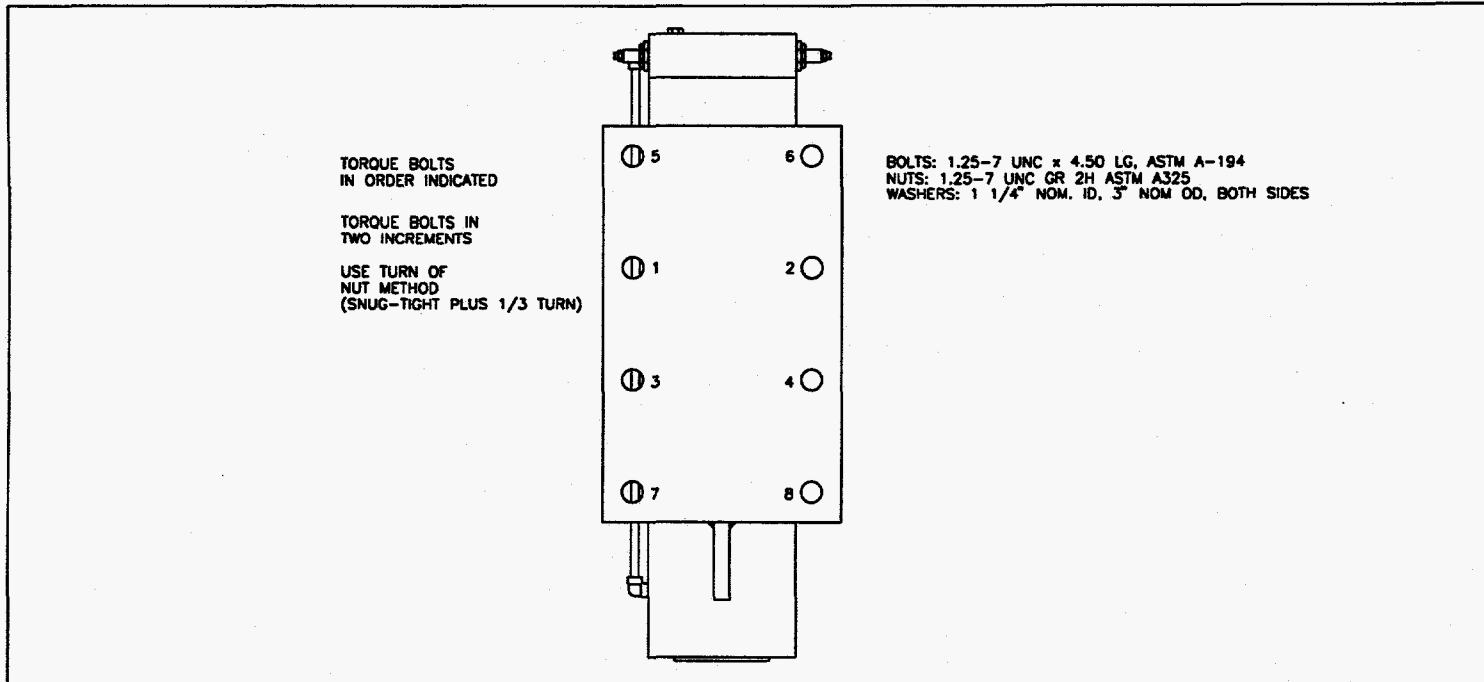

FIGURE 12, TORQUING SEQUENCE
- 3 Loosen the eight (8) mounting bolts in even increments. Loosen the bolts in the reverse order of the tightening sequence (Figure 12, page 25).
- 2 Install eight (8) new bolts, washers, and nuts finger tight.
- 3 Tighten the eight (8) mounting bolts in even increments until all are snug tight. Tighten the bolts in the order of the tightening sequence (Figure 12, page 25).
- 5 Tighten the eight (8) mounting bolts an additional 1/3 turn. Tighten the bolts in the order of the tightening sequence (Figure 12, page 25).